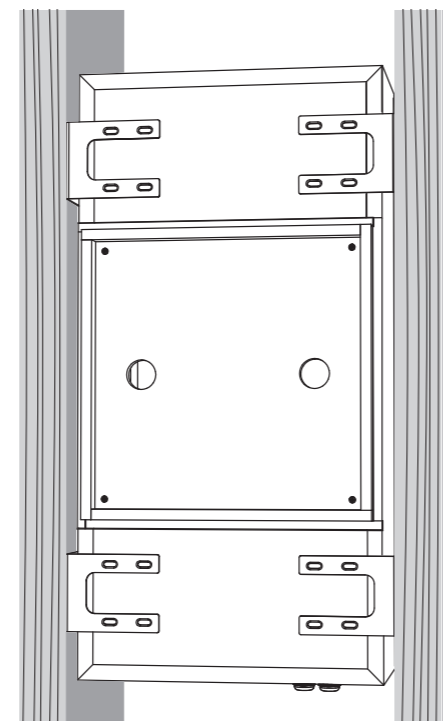

Fig. 2 Screw the brackets and back can together.
3. With the help of an assistant, carefully lift the back can to the chosen location between the ceiling joists, and lift and slide it into place, until it is supported by the four brackets and centered between them (Fig. 2).